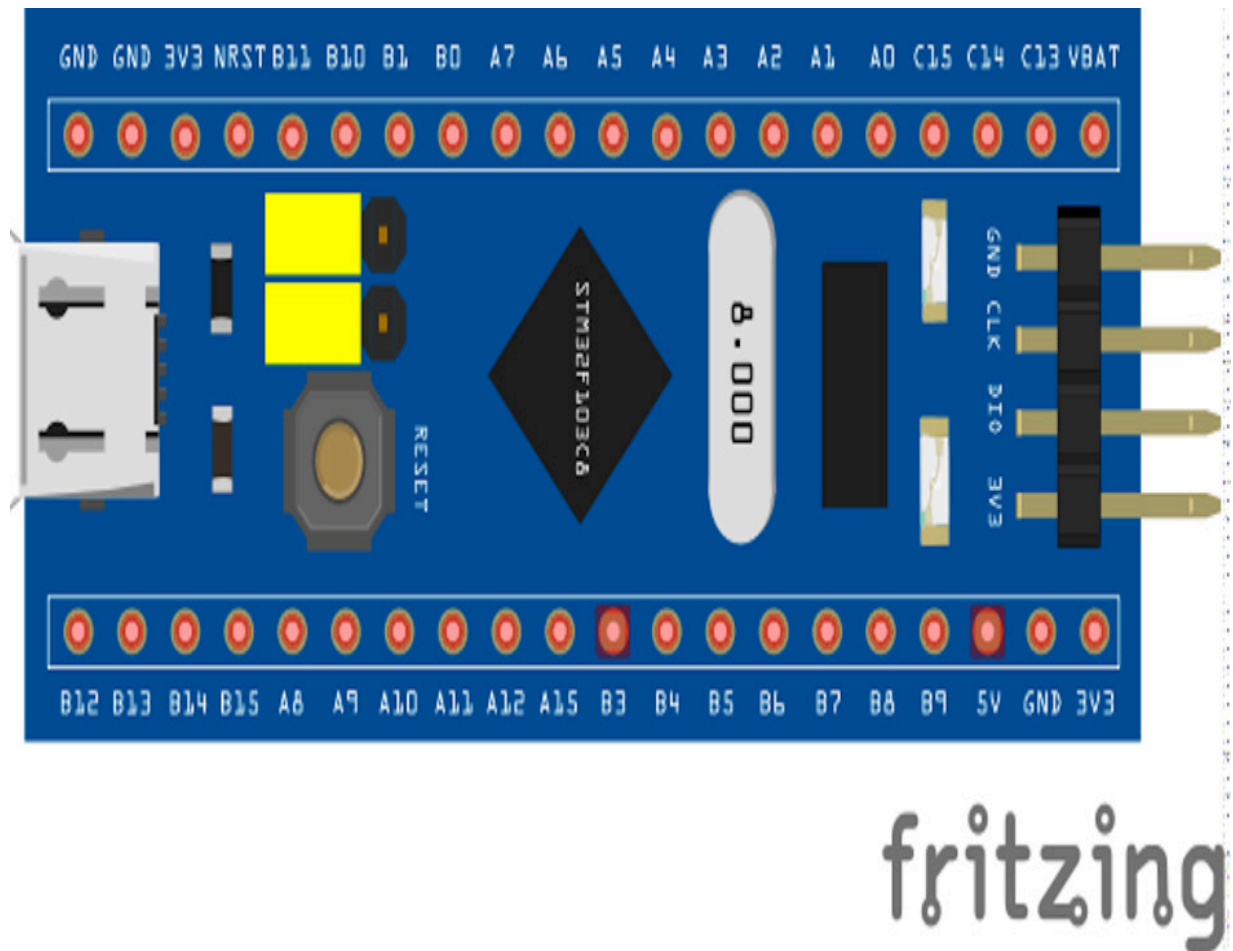

Figure 2.2 – The Blue Pill's pins configuration
*Figure 2.2 shows the I/O ports and other pins from the Blue Pill:*
The ports' pins can be seen in *Figure 2.2*. Some of them are used in this book's chapters. The Blue Pill has the following analog ports: A0, A1, A2, A3, A4, A5, A6, A7, B0, and B1. The following are digital I/O ports: C13, C14, C15, B10, B11, B12, B13, B14, B15, A8, A9, A10, A11, A12, A15, B3, B4, B5, B6, B7, B8, and B9.